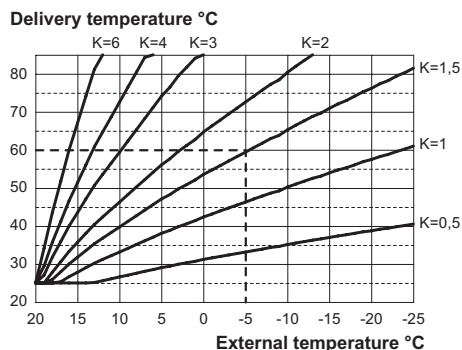

Figure 5.28
If the remote control (optional) **IS CONNECTED** to the boiler, refer to Figure 5.28.
When installing the external probe, this parameter must be set based on the efficiency of the heating plant to optimise the delivery temperature (Figure 5.28).
E.g. To achieve a temperature delivered to the heating system of 60°C with an outdoor temperature of -5°C, set a K of 1.5 (dashed line in Figure 5.28).
- Using key 10 or 11 it is possible to change the value of parameter 15 from a minimum of **01** to a maximum of **60** based on the selected curve of the K coefficient in Figure 5.28 (the value read on the display corresponds to the decimal values of the K coefficients).